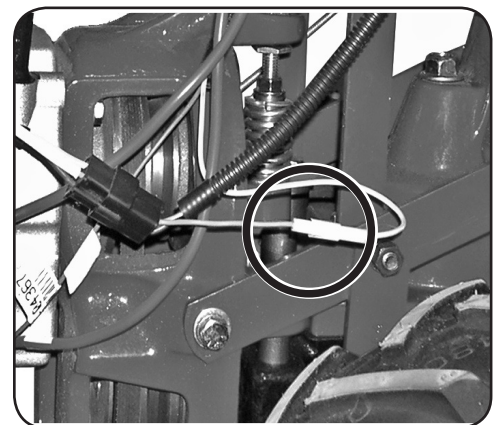

Figure 3-4
2. Connect the safety wire assembly (green and yellow wires). See Figure 3-4.